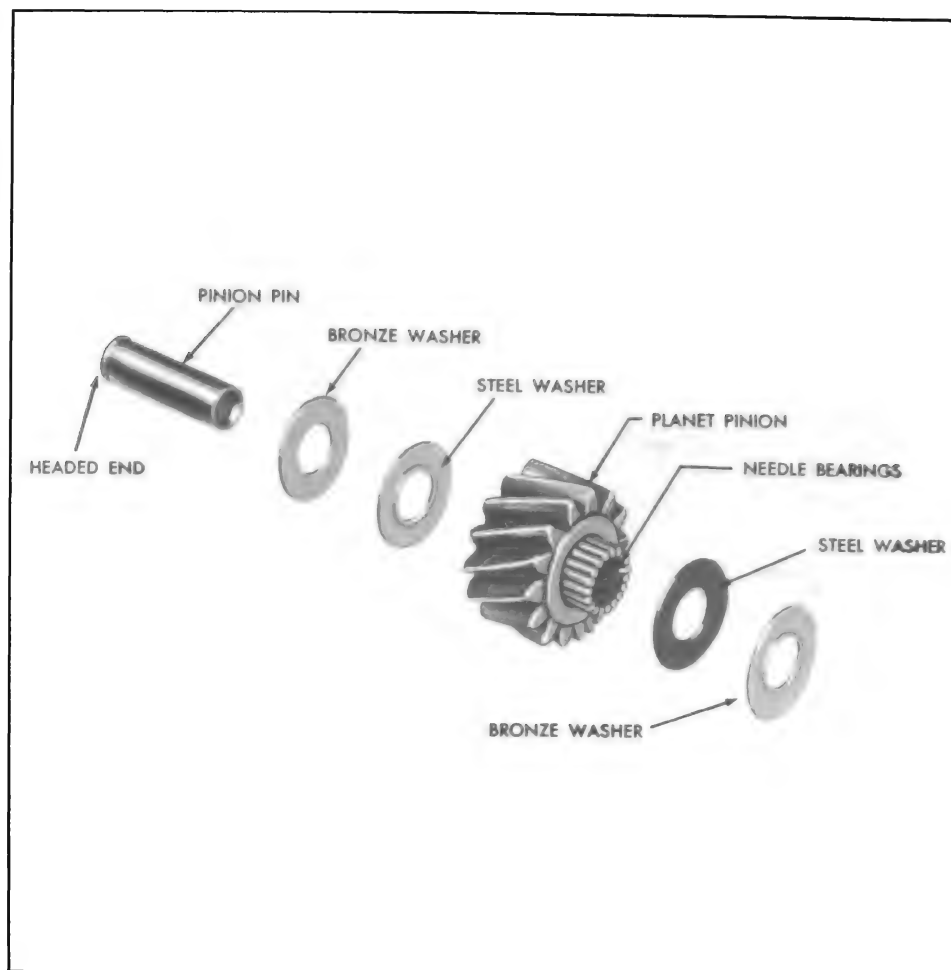

Figure 5-665
5. Install nineteen (19) needle bearings into each pinion, using petrolatum to hold the bearings in place. Use a pinion pin as a guide. See Figure 5-665.